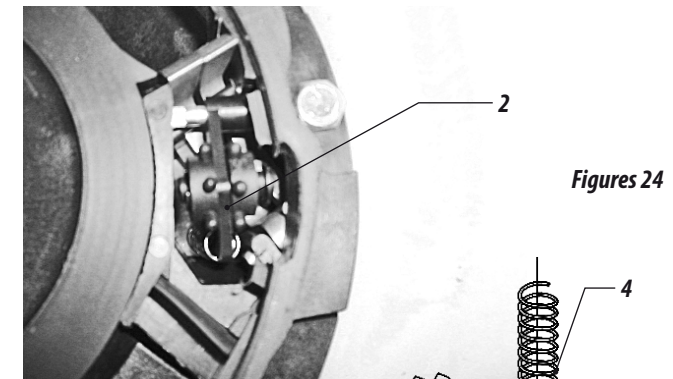

Figures 23
- 05 - The seed distributor comes factory fitted with trigger two stars in metering discs double row of holes (2).
- 06 - The single row of discs (3) uses a star trigger metering (4). To proceed the change see **Figures 23**.